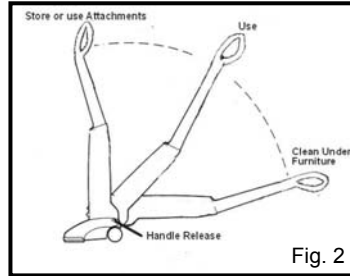

Fig. 2
3. Step on the handle release button to release the handle. (Fig. 2)